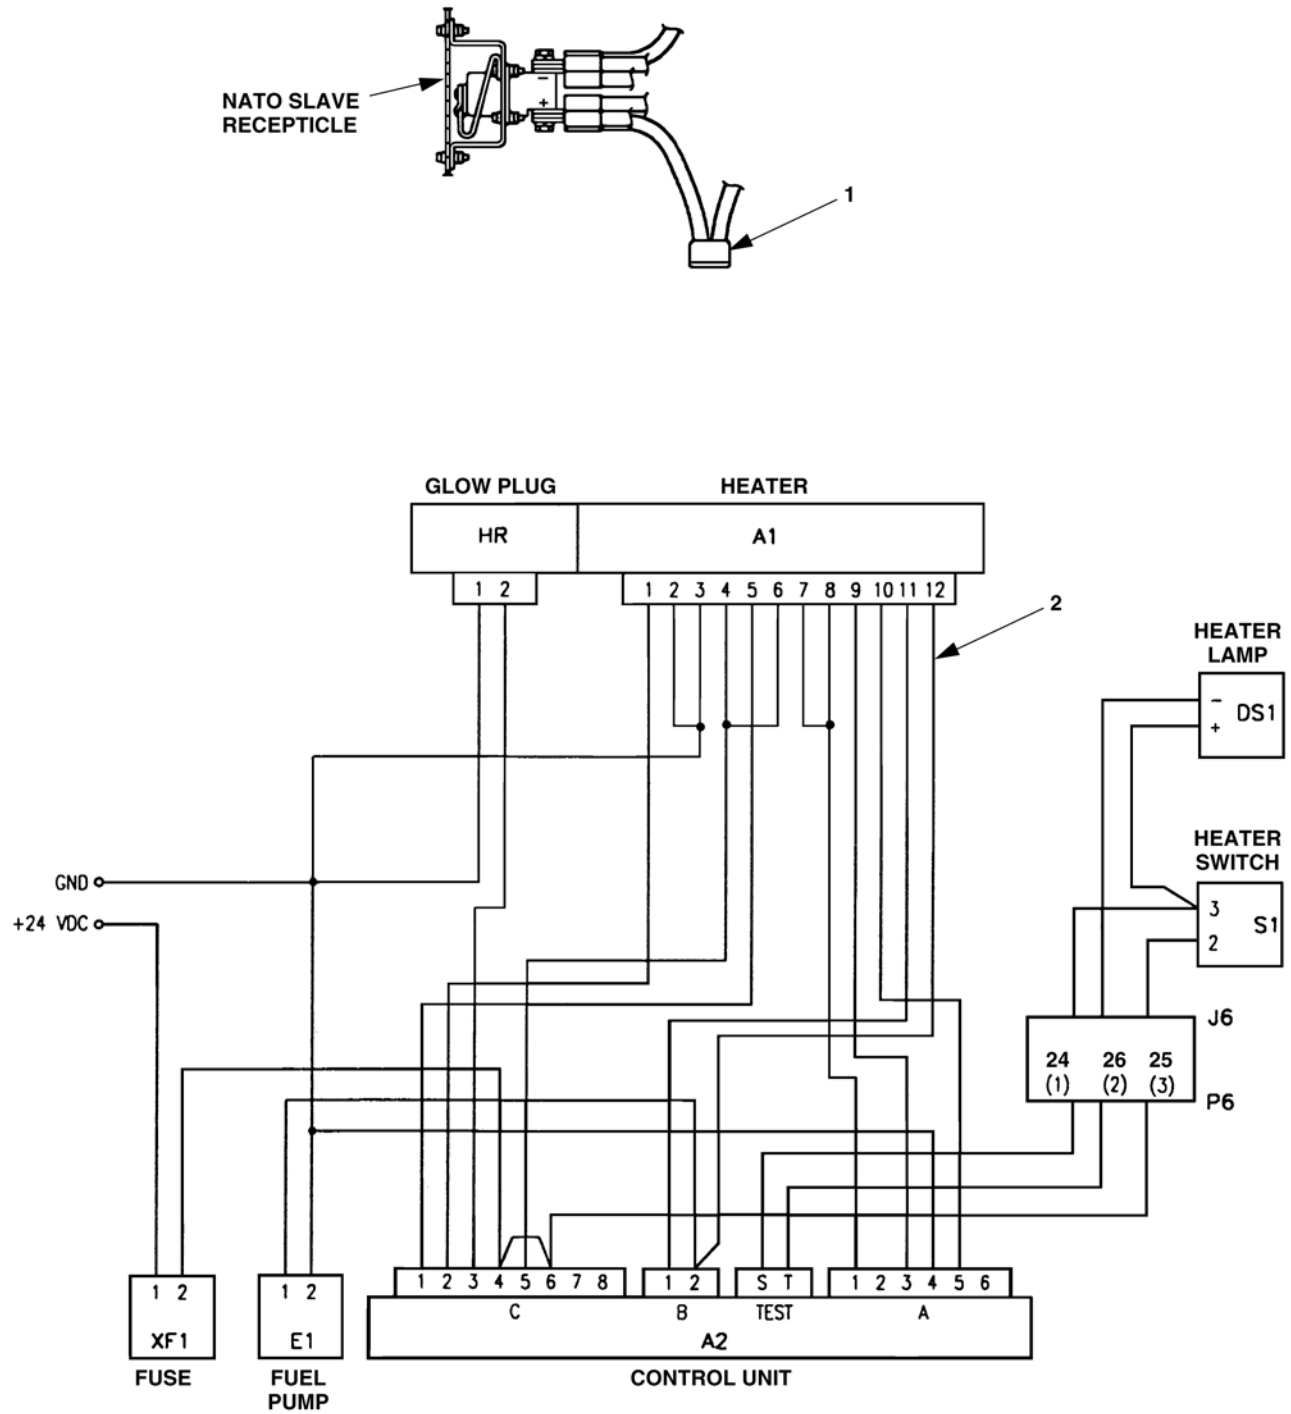

Figure 4-27. Wiring Harness Maintenance.
1. Refer to Figure 4-27 and tag all leads on wiring harness to be removed.
2. Refer to Figure 4-27 and connect leads and plugs.